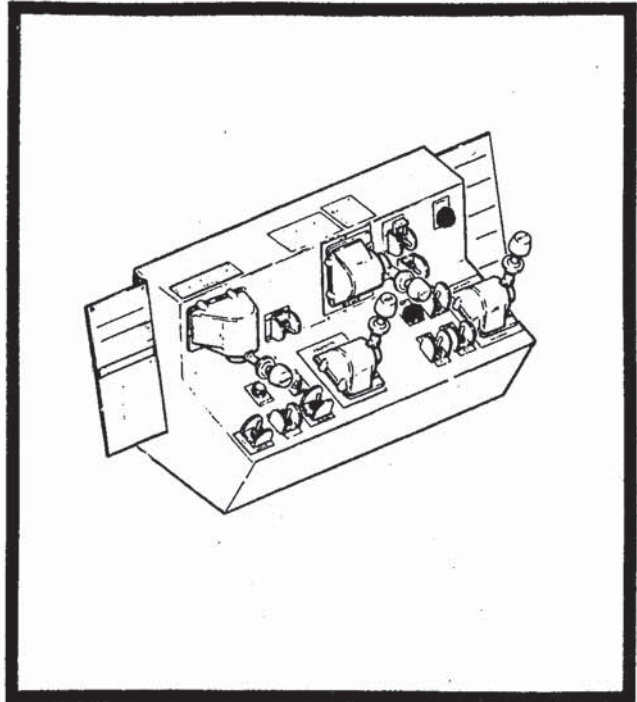

Figure 3-2. Platform Control Station.
b. Platform Station. (Figure 3-2.)